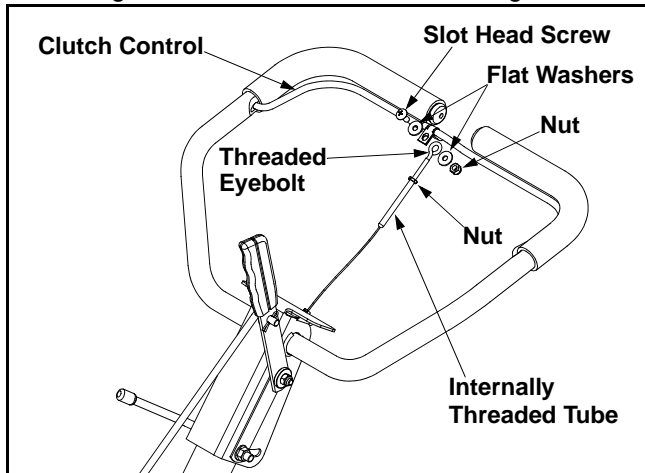

Figure 4
- Remove slot head screw, nut, and two flat washers from the clutch bail. See Figure 4.
- Thread eyebolt and nut removed earlier into the internally threaded tube at the end of the cable. Thread engagement should be about 3/4". Tighten nut against tube at end of cable. See Figure 4.